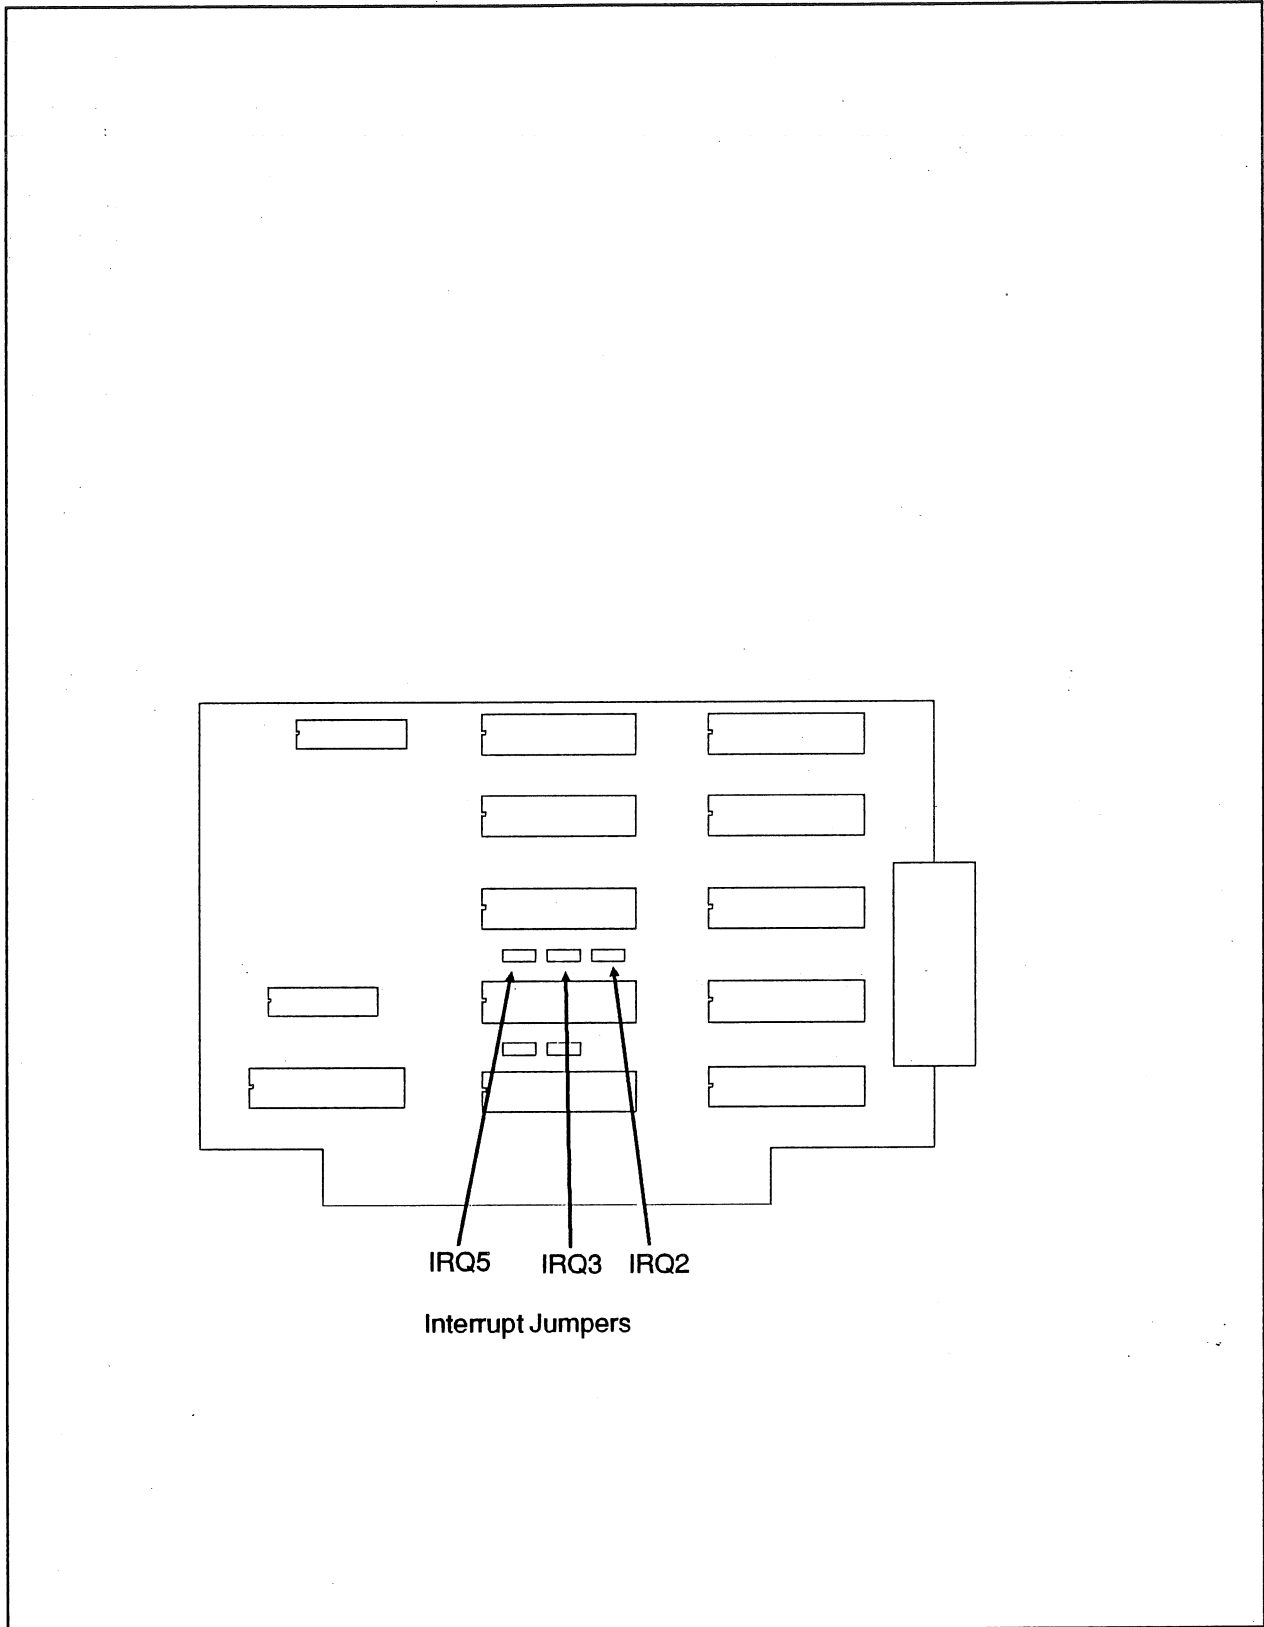

Figure 5-6. Parallel Interface Board Interrupt Jumpers
- 2 Set the Parallel Interface Board interrupt level jumpers as follows (see Figure 5-6):